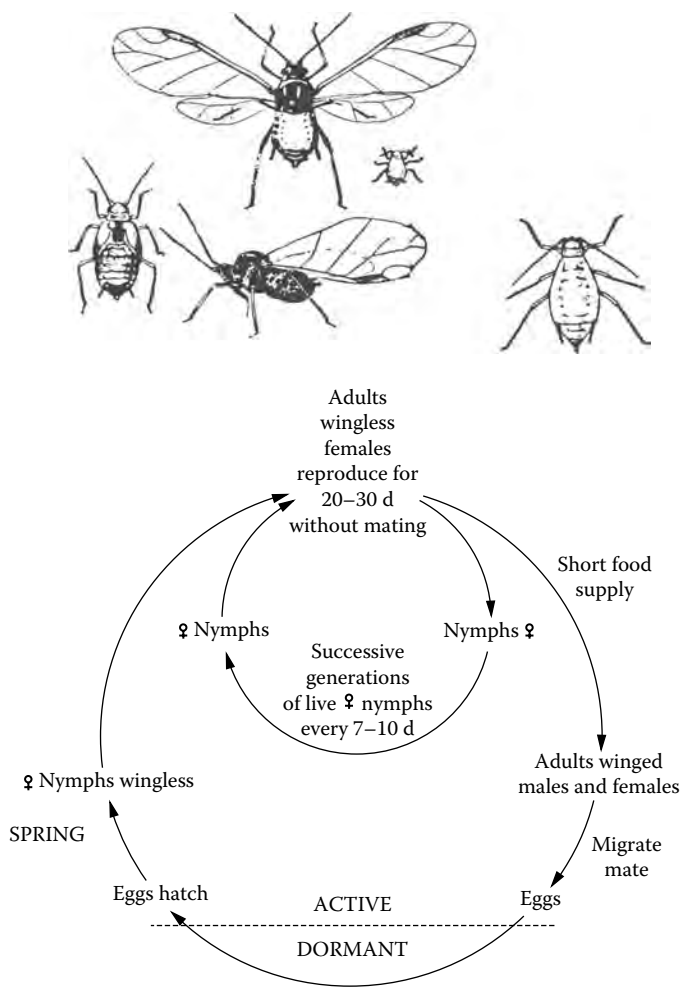

FIGURE 25.4 Aphids with life cycle. (Insect drawings courtesy of J.R. Baker, North Carolina Agricultural Extension Service, Raleigh, North Carolina.)
2. *Aphids*: These pests are almost always found in your backyard garden. They are green, brown, or black in color depending upon the species. Their distinguishing pear-shaped body places them apart from other insects (Figure 25.4). There are winged and wingless forms. One prominent characteristic of their infestation on plants is the presence of “honeydew” excreted from their abdomens causing stickiness of leaves and plant parts as they suck on the plants. This liquid attracts ants, so if you encounter large ant populations around the plants it could be due to the presence of aphids. Often sooty molds (fungi) infect the leaves as a secondary organism, creating a black film on the leaves.